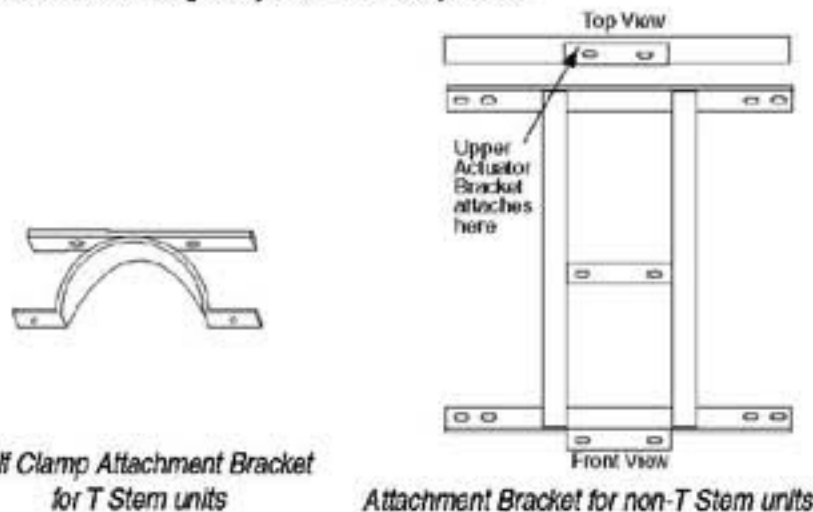

Figure 1
- ① Bolt attachment brackets to Height Adjuster (see Fig. 1) These will be used to attach Height Adjuster to backstop frame.